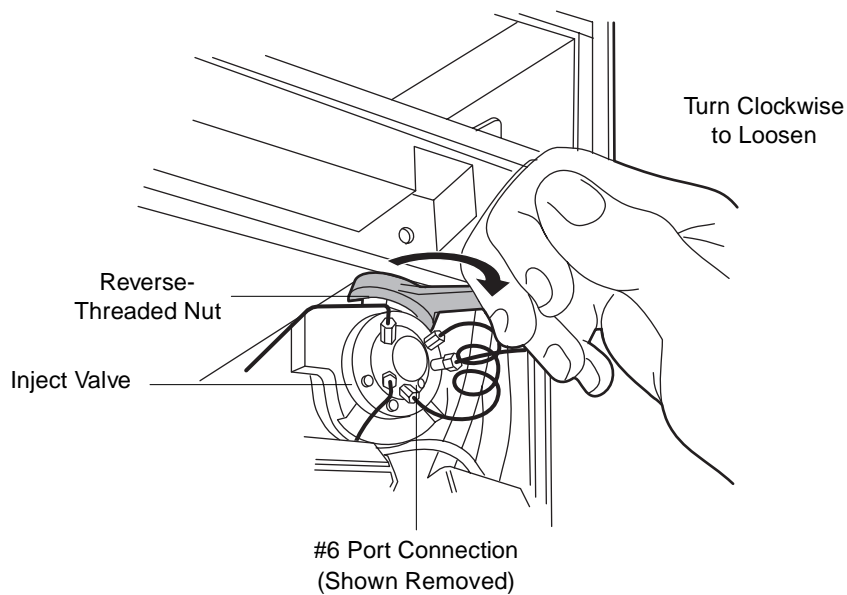

Figure 7-21 Loosening Reverse-Threaded Nut Under Needle-Wash Housing
5. Use the 1/4-inch open-end wrench to remove the tubing connection from the #6 port on the inject valve (Figure 7-21).